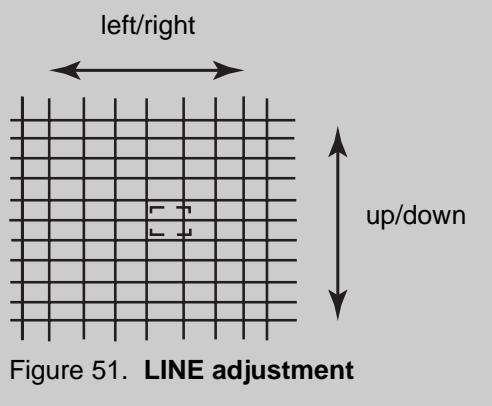

Figure 51. LINE adjustment
24. LINE mode allows to move each single line horizontally and vertically (See Figure 51).